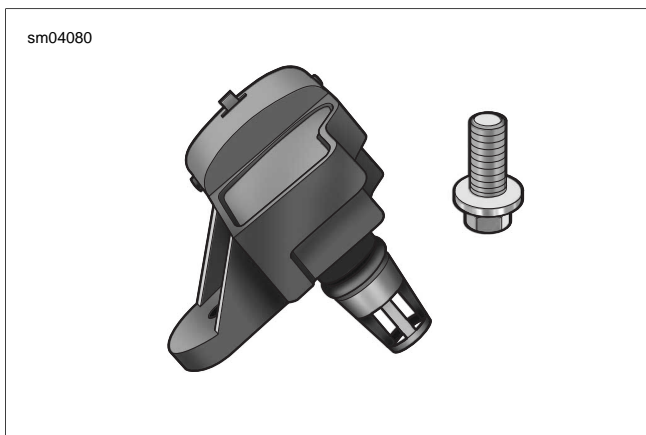

Figure 4-29. TMAP Sensor
3. See Figure 4-29. While rotating TMAP sensor slightly, pull straight up to release pressure port from hole in induction module.